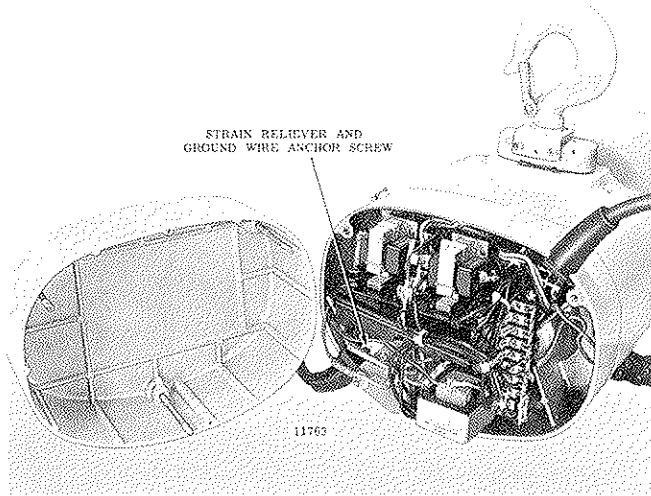

Figure 7-5. View of Push Button Model Hoist with Electrical Compartment Cover Removed
(2) On push button model hoists, disconnect three push button conductor cable leads at plug in type connectors that can be pulled apart. Remove screw and washer securing strain reliever (fig. 7-5) and pull the cable and grommet from its slot in gear case cover.
(3) Disconnect power supply flexible cable leads from terminals of controller or contactor, depending on hoist model. Remove screw attaching ground leads to gear case cover and pull flexible cable and grommet from slot in cover.
(4) Disconnect motor leads from electrical control units. Number of leads depends on type of motor. (See wiring diagrams in Section VIII).